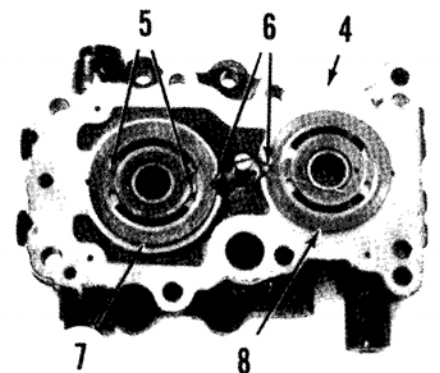

**Fig. 55—Rear view of hydrostatic transmission.**
tion can be determined after reassembly. Remove snap ring (3—Fig. 55), then withdraw gear (2) and bearing (4). Remove snap ring (7), then withdraw gear (6). On models so equipped, extract front-wheel drive shaft (5) out front of transmission. Remove nipple fitting (1) and gasket (8).